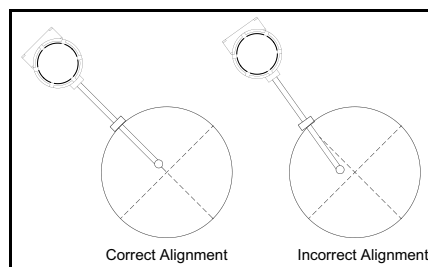

Figure 9: Connection Alignment
6. Weld the flow meter pipe connection on the pipe. Make sure this connection is within $\pm 5^\circ$ perpendicular to the pipe centerline (see *Figure 9* below).
2. Weld a two inch mounting adapter on the pipe. Make sure the mounting adapter is within $\pm 5^\circ$ perpendicular to the pipe centerline (see *Figure 9 on page 16*). The pipe opening must be at least 1.875 inches in diameter.